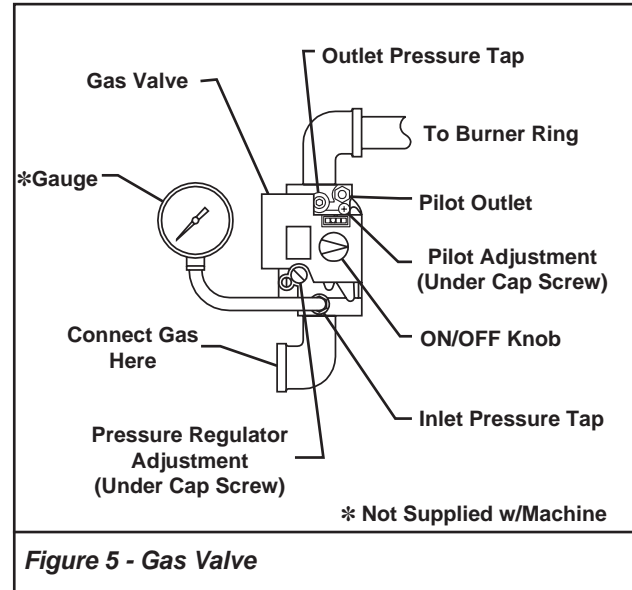

Figure 5 - Gas Valve
Refer to **Figure 5**.
- Connect your natural gas supply to the inlet port of the machine gas plumbing. (Refer to **Figure 5.**)
- Next install the gas gauge or manometer in the outlet pressure tap port of the gas valve. (Refer to **Figure 5.**) This reading will indicate the gas pressure going to the burner ring.